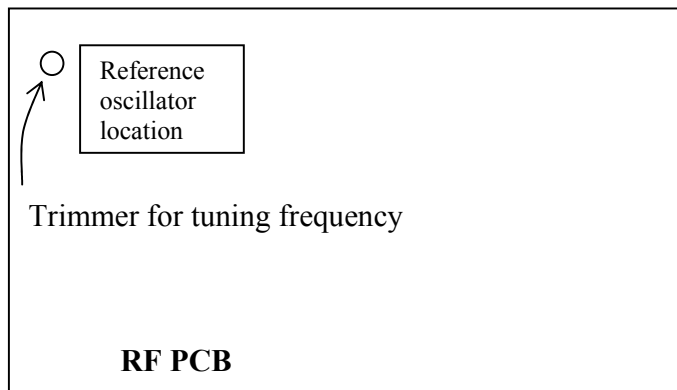

Figure 20 – location of trimmer potentiometer
- turn the unit upside-down and open the bottom cover to see RF PCB (use Figure 20 for reference);
- By observing frequency readings at **406 Phase modulation** window, adjust the trimmer (see Figure 20) to get frequency value as close as possible to the reference one. The tolerance should not exceed ± 10 Hz.